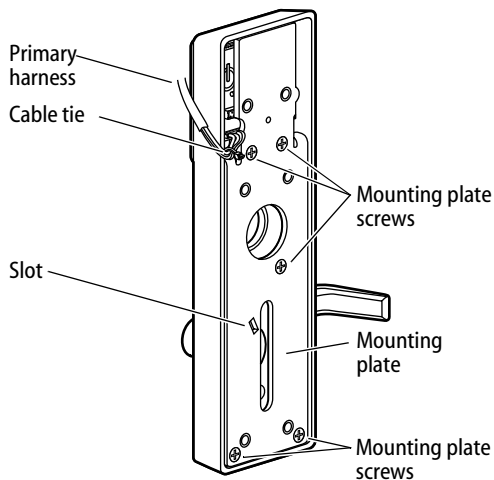
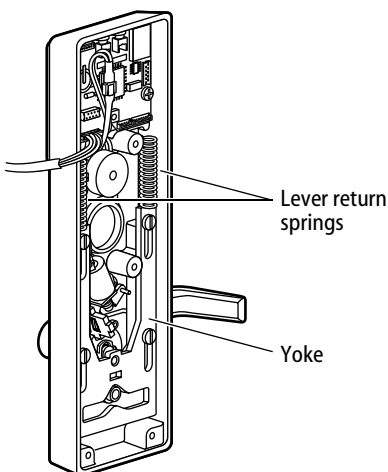

Figure 2 Removing and reinstalling the mounting plate
Figure 3 Removing and reinstalling lever return springs
- 4 Remove the mounting plate (Figure 2):
- 5 Remove the lever return springs from the yoke. See Figure 3.
- 1 With posts on the mounting plate inserted in the lever return springs, slide the mounting plate into the escutcheon (Figure 3). Make sure that the locking plate fits into the slot in the mounting plate. Secure with the five new screws. Route the primary harness against the mounting plate post and secure the harness to the post with a cable tie. See Figure 2.